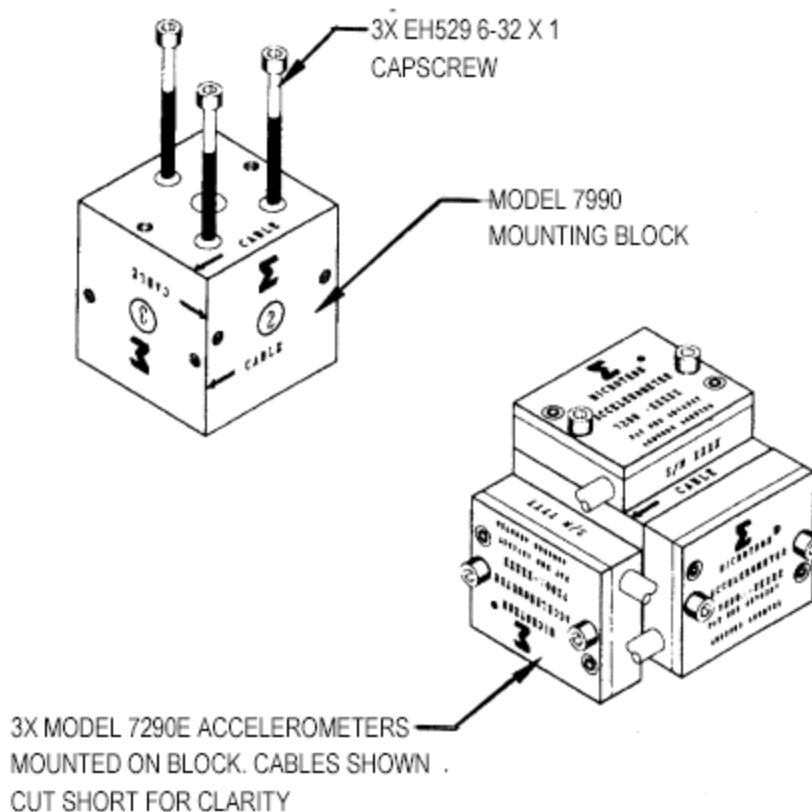

FIGURE 2- Installation of (3) Model 7290E Microtron Accelerometers onto Model 7990 Triaxial Block
7. For triaxial acceleration measurements, the Model 7990 Mounting Block is attached to the mounting surface with three (3) 6-32 x 1 inch socket head cap screws as shown in Figure 2, with subsequent attachment of the (3) Model 7290E Microtron Accelerometers per steps 2 through 6 above.